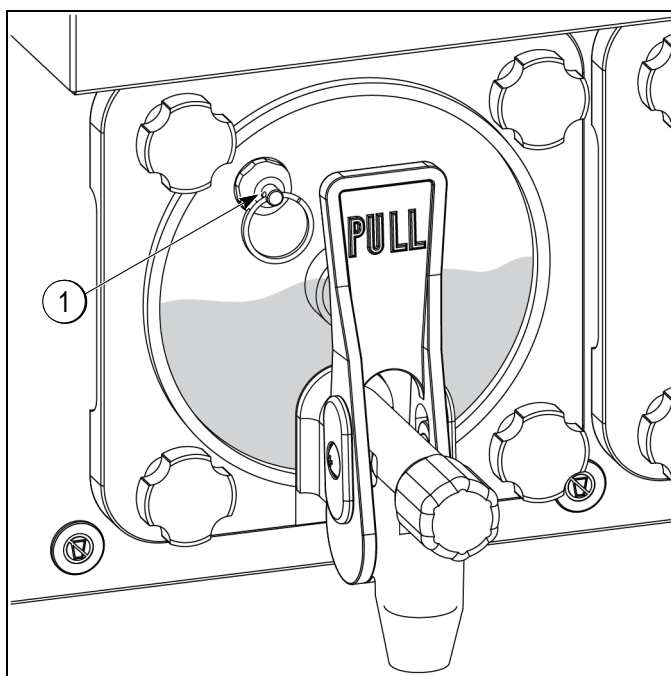

Figure 2-41
2. Pull on the relief valve ring (1) to relieve pressure. Valves will automatically restart when pressure drops below 20 BPU. When valves activate, **RELEASE** relief valve ring (1).
3. See Figure 2-41 for approximate liquid level.